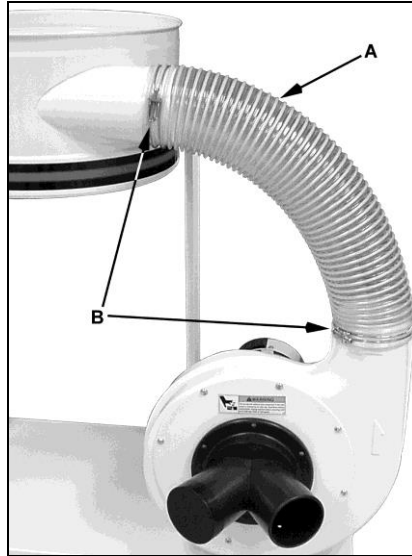

Fig 7
Attach the hose (A, Fig 7) with 2 provided clamps (B).